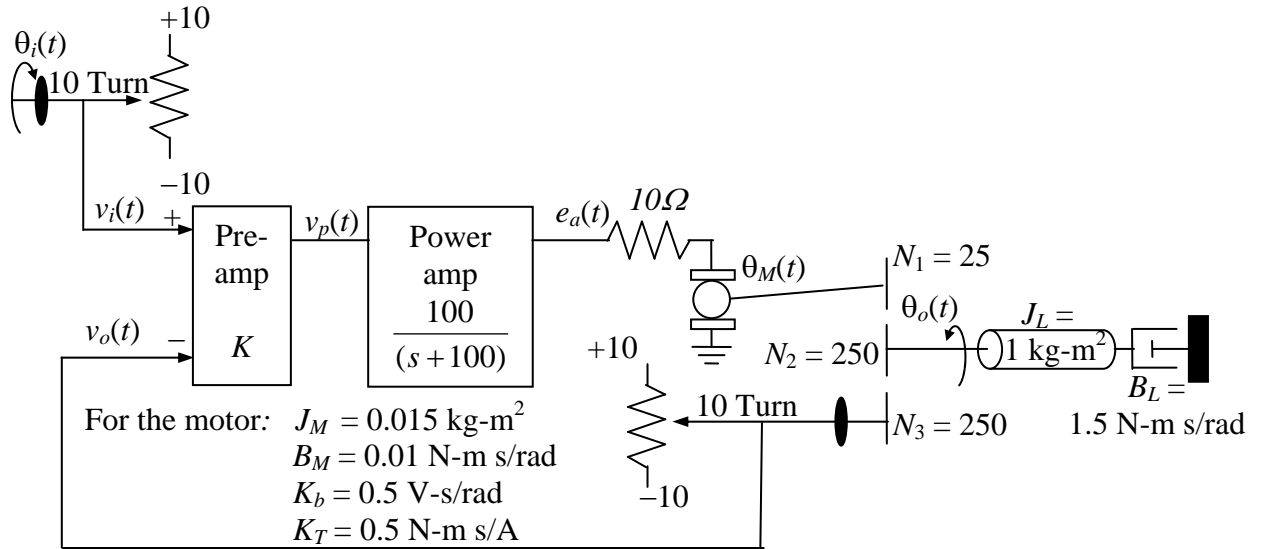

Figure 4 Azimuth control system.
5. Find the transfer function of each subsystem for the antenna azimuth control system shown in Figure 4. Obtain the overall transfer function. Note that the transfer function of the motor with no load attached is given in the lecture note. Here, a load is connected to the motor through a gear train, so it is given by